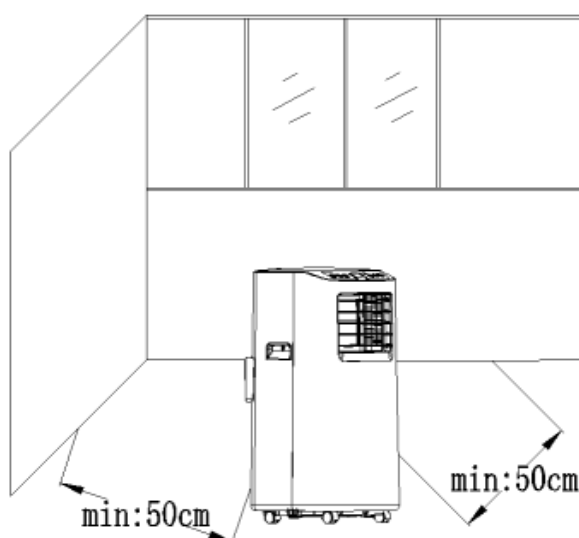

Fig. 4
- 1) Place the air conditioning unit with the hot air outlet piping and the accessories in front of the window, whereas the distance of the air conditioning unit body from the walls and other objects must be at least 50 cm (see Fig. 4).